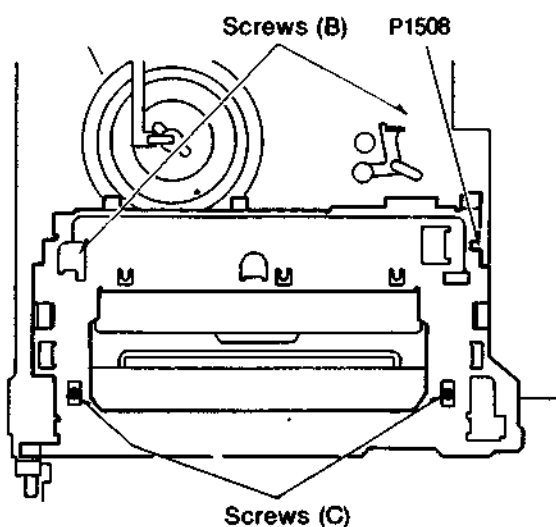

Fig. 4-18
7. Reinstall the top plate and tighten the 2 screws (A), then tighten the 4 screws (B) and (C) as shown in Fig. 4-18